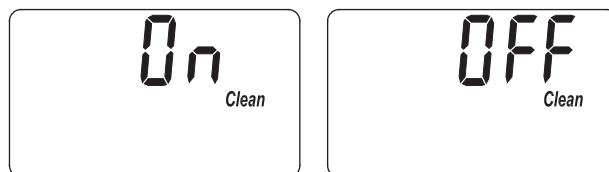

FIG. 27
1. Press and hold the PROGRAM button until the screen in Figure 25 is displayed. Once in this display, press the PROGRAM button twice and one of the two displays in Figure 27 is shown.